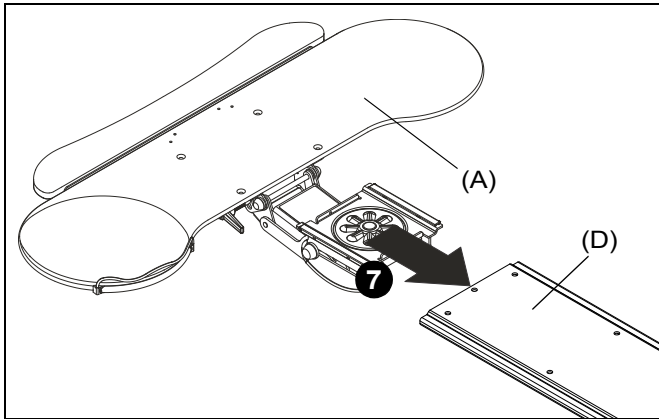

Figure 5
7. Slide keyboard tray (A) into under-desk track (D). (See Figure 5)